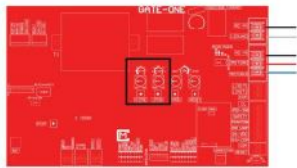

Figure 24
1. On your gate operator circuit board in the bottom, turn Dip Switch #2 to the ON position. Figure 24